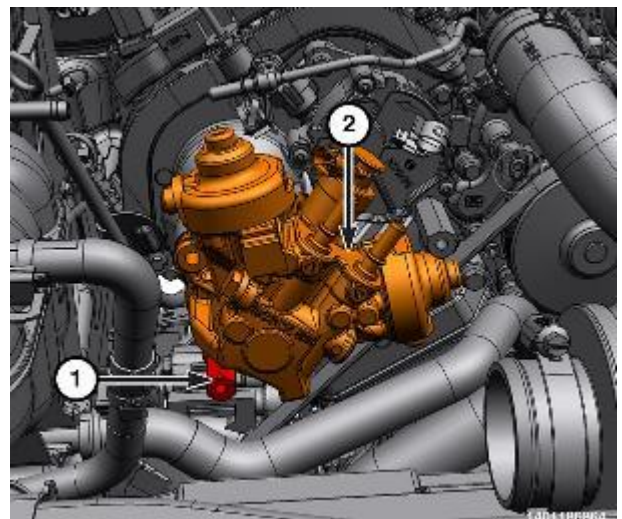

Figure 39 – HPFP Lower Bolt
- 74. Remove the lower bolt (1) from the HPFP (2) and remove it from the vehicle (Figure 39).
- 82. Install the lower fuel injection pump bolt (2) and hand tighten the bolt (1) (Figure 39).